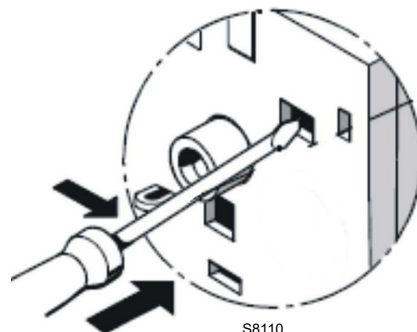

Fig. 42
- **Contact test NC (95-96) and NO (97-98)(Fig. 42)**